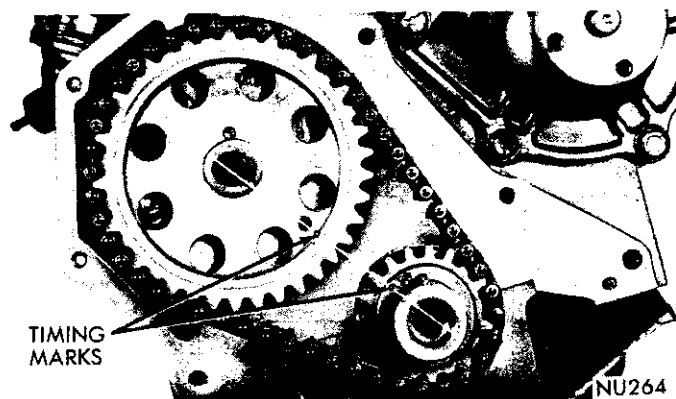

Fig. 22—Alignment of Timing Marks
(7) Turn crankshaft to line up the centerline of camshaft and crankshaft with the timing mark on crankshaft sprocket.
(8) Install camshaft sprocket and timing chain.
(9) Line up timing marks on the sprockets with the centerline of crankshaft and camshaft (Fig. 22).
(10) Tighten camshaft sprocket lock bolt to 35 foot-pounds. Slide the crankshaft oil slinger over shaft and up against sprocket (flange away from sprocket).